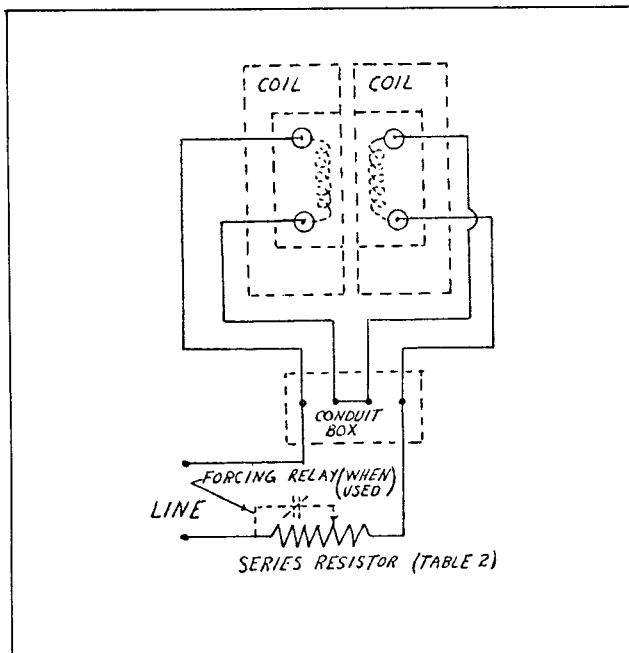

Fig. 3. Shunt Coil Connection
gasket compound. When changing coils, transfer travel indicator to new magnet. Bolt new magnet in place and bring leads into conduit box through rubber grommets for shunt coils or to terminal board. Make connection to power leads per Fig. 3 or 4 depending on type of coils being used, and tape leads.
- Coils may be improperly connected with resultant bucking instead of cumulative magnetic flux. Check wiring per Fig. 3 or 4.
b. SHUNT COIL OPERATION.—Shunt brakes are usually supplied with low voltage coils for speedy action unless otherwise specified, and it is necessary to have a resistance in series with the coil. Coil voltage and value of series resistance is given in Table 2. Coils are connected per Fig. 3 with full current flowing through both coils. In case of coil failure, brake may be operated on one coil for shorter time by shorting out defective coil.